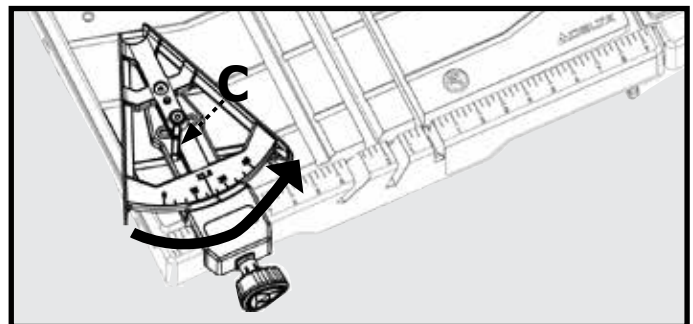
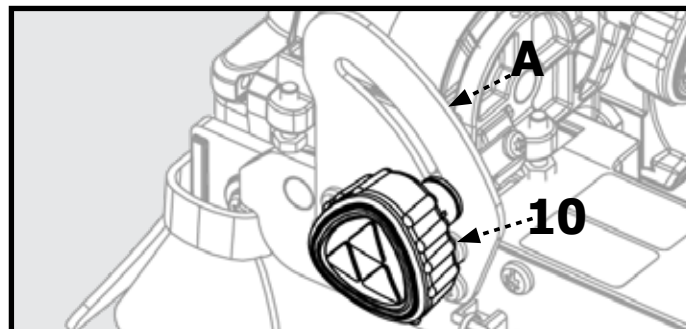

Figure 20
Figure 21
1. Loosen the blade cover lock knob (A, Fig. 21).
2. Swing the blade cover (9) open
4. Depress the blade spindle lock (B, Fig. 20) and use the blade wrench (C, Fig. 21) to loosen the arbor lock nut (D, Fig. 21)
7. Place the new blade on the arbor so that the arrow on the blade is pointing in the same direction as the arrow on the blade cover. (See Figure 21)